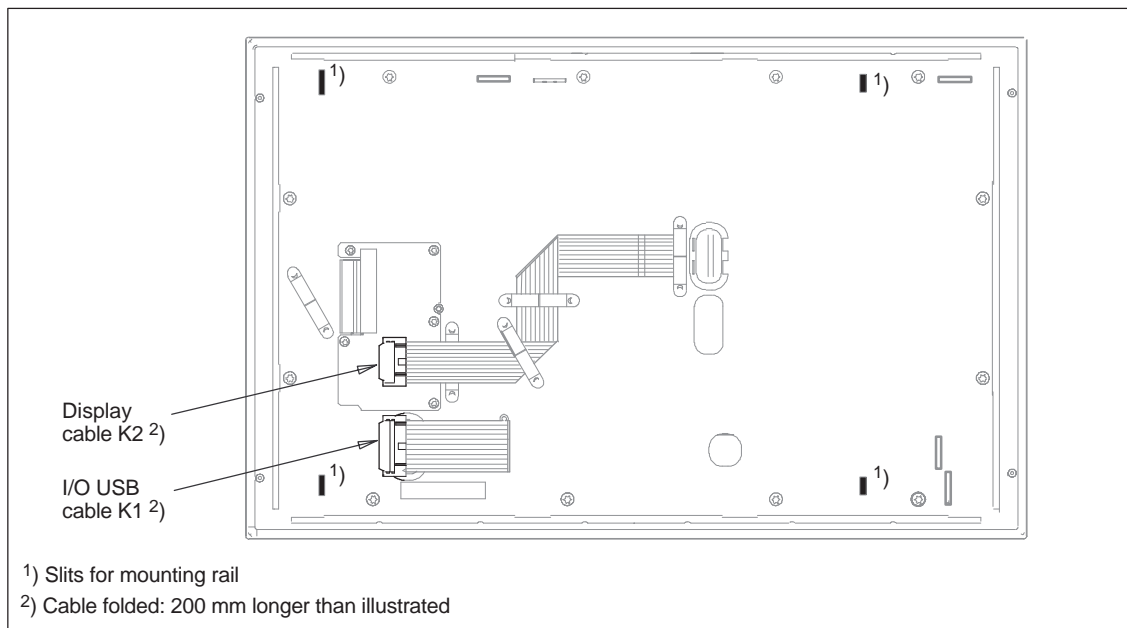

Fig. 4-2 Rear side of operating panel with positions of interfaces
3. Remove the cable connectors K1 and K2 of the operating unit (see Figure 4-2) from their corresponding counterparts on the computing unit.
4. Lift the computing unit off horizontally by removing these clips from the corresponding slits on the operating unit (see Figure 4-2 below).